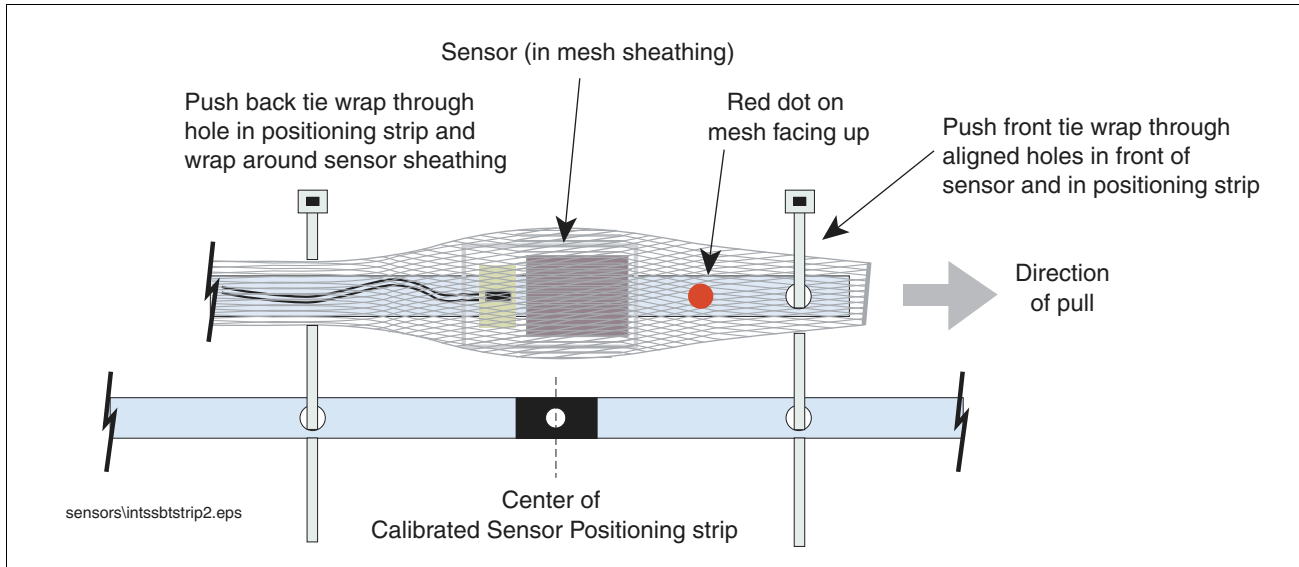
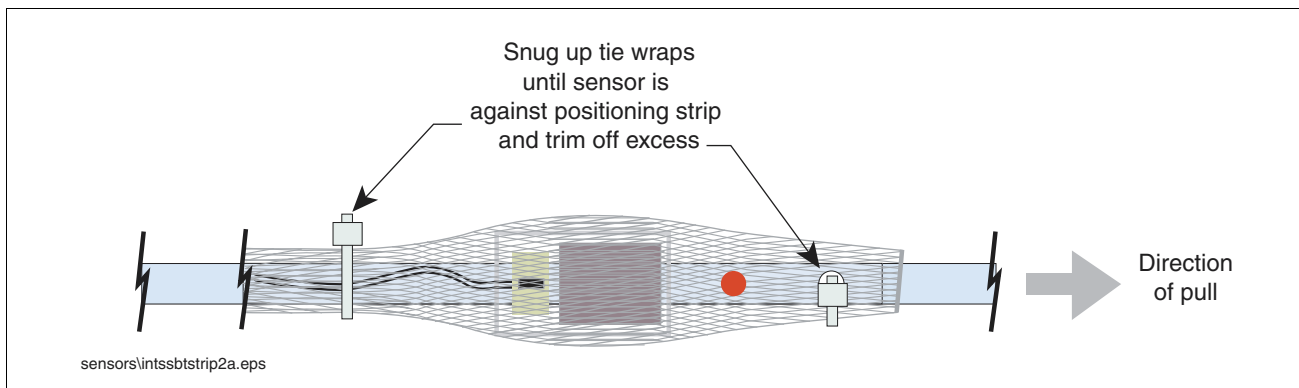

Figure 2.
Figure 3.
2. Place the Interstitial sensor along the top of the support strip so that the sensor body is over the painted area and the hole in the front of the sensor aligns with the 5/16" hole to the right of the center hole (see Figure 2). The red dot on the sensor's mesh sheathing must be facing up.
3. Thread one of the tie wraps from the kit through the aligned holes of the Sensor and the Calibrated Support Strip. Snug up the tie wrap until the sensor is flat against the Calibrated Support Strip (see Figure 2). Thread another tie wrap from the kit through the 5/16" hole to the left of the calibrated support strip's center hole and around the sensor's mesh sheathing. Pull the tie wrap ends until the sensor is snug against the calibrated support strip (see Figure 3). Trim off excess ends from tie wraps.